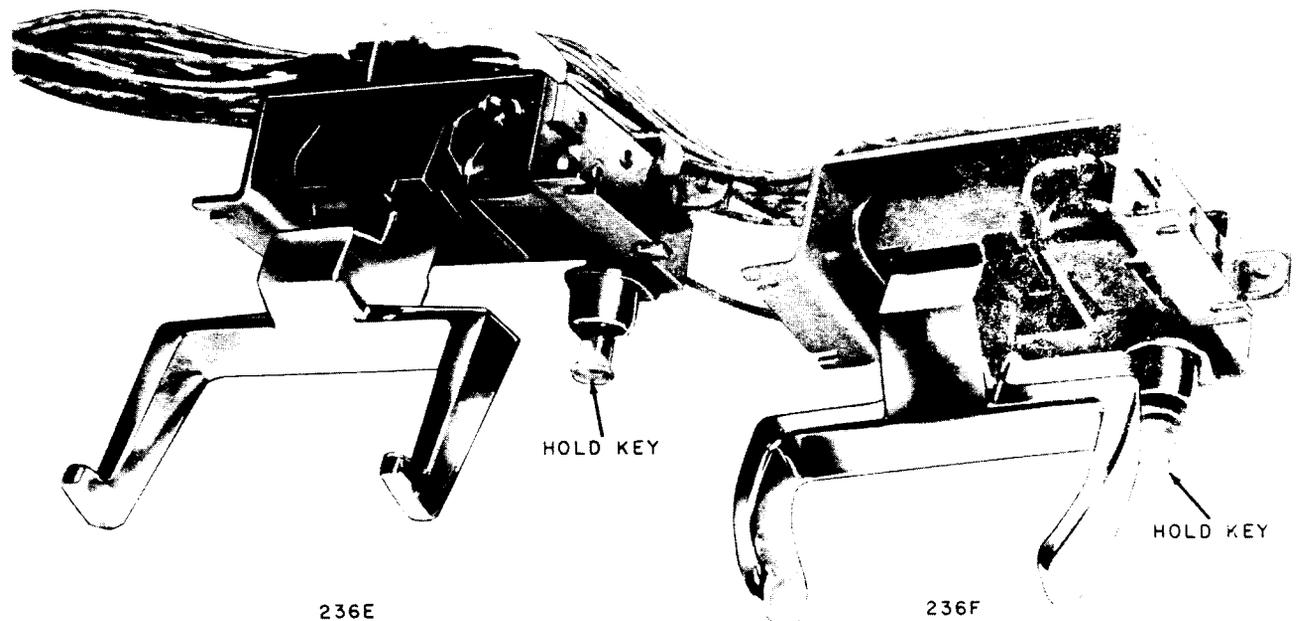

Fig. 14—236E and F Line Switch
2.39 The **236E and F** switches (Fig. 14) consists of a 235-type line switch equipped with a hold key and is intended for use on 3/8-inch maximum thickness panel installations where a hold or exclusion feature is desired. The hold key is mechanically linked to the operating mechanism of the line switch. The handset must be removed to operate the hold key and replacing the handset automatically restores the hold key.